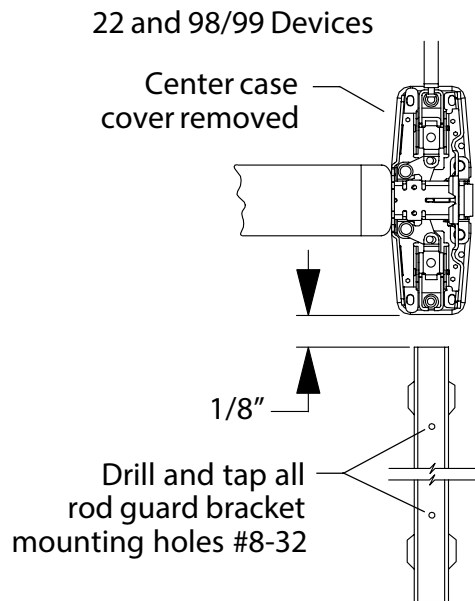
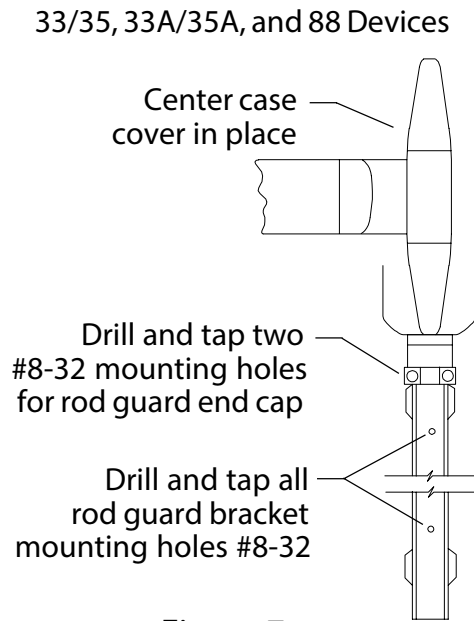

Figure 6
Figure 7
- 5 Position rod guard bracket on door and mark all mounting holes (Figure 6 or Figure 7).
- 12 For 33/35, 33A/35A, and 88 devices, install rod guard end cap over rod with two #8-32 screws (Figure 7).